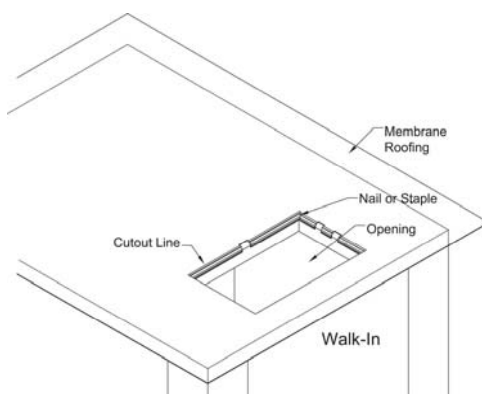

Figure 4
- Lay the membrane roofing material over the walk-in ceiling sections and curb leaving a six inch overhang on all four sides of the walk-in. Using an utility knife, cut a hole in the membrane roof approximately 1-1/2" in from the edge of the opening. (The resulting hole in the membrane will be smaller than the ceiling opening). Fold the 1-1/2" membrane flaps into the opening, notching the membrane around the locators and divider. Use either staples, roofing nails, sheet metal screws, caulk, glue, etc. to fasten the membrane roofing material to the inside edge of the curb frame. Refer to Figure 4.